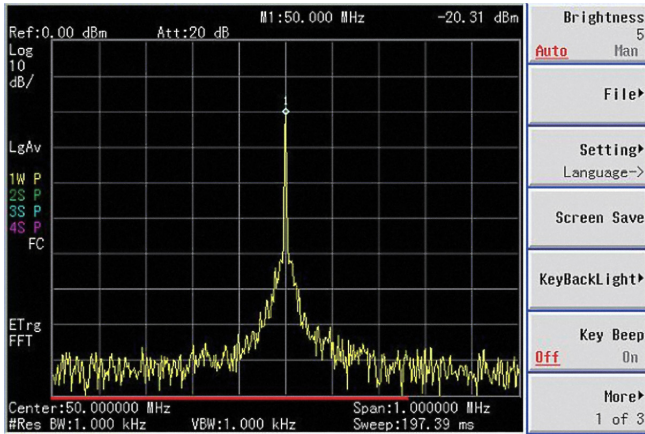

Figure 3. Use the spectrum analyzer to obtain the carrier frequency
Step 1: Using the Spectrum Analyzer mode in N9340B to estimate the carrier frequency, as shown in figure 3:
From figure 3, we know the carrier frequency is about 50 MHz.